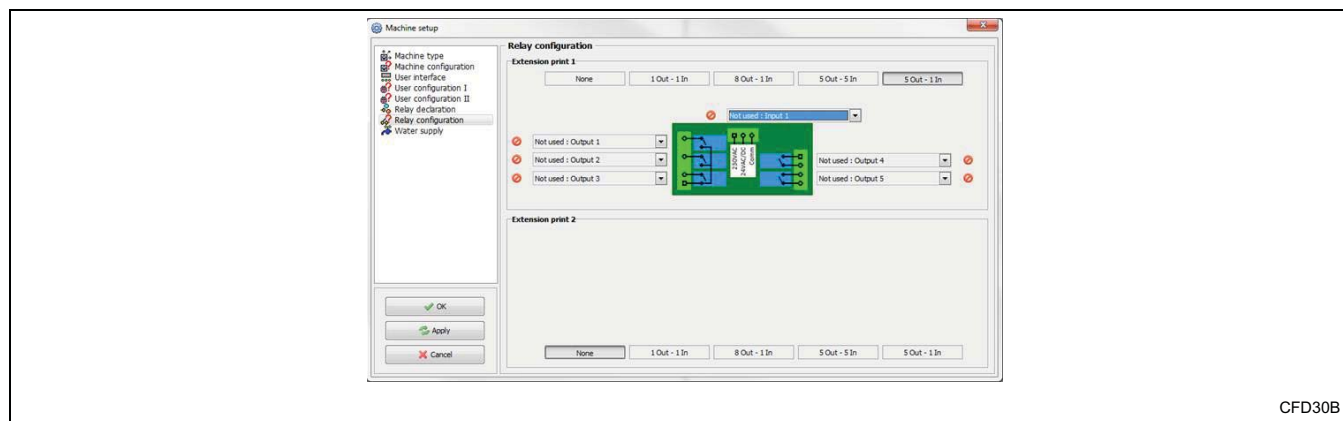

Figure 3
3. In the *Relay configuration* portion of the *Machine setup* menu, configure the relay inputs and outputs. Refer to *Figure 3*.